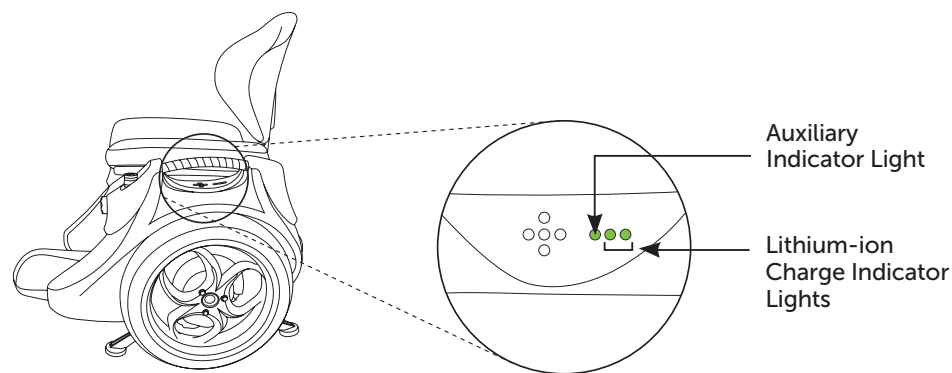

Figure 34: Indicator lights showing charging Batteries.
6. The Charge Indicator Lights on the Omeo's Display Panel should illuminate green to confirm that the Batteries are charging (*Figure 34: Indicator lights showing charging Batteries, Pg. 69*).
5. The Auxiliary Indicator Light on the Omeo's Display Panel should illuminate green to confirm that the Auxiliary Batteries are charging (as shown in **Figure 34**)
The Indicator Lights for the Auxiliary Battery system are located on the Omeo Display Panel (as shown in *Figure 34: Indicator lights showing charging Batteries*, Pg. 69).